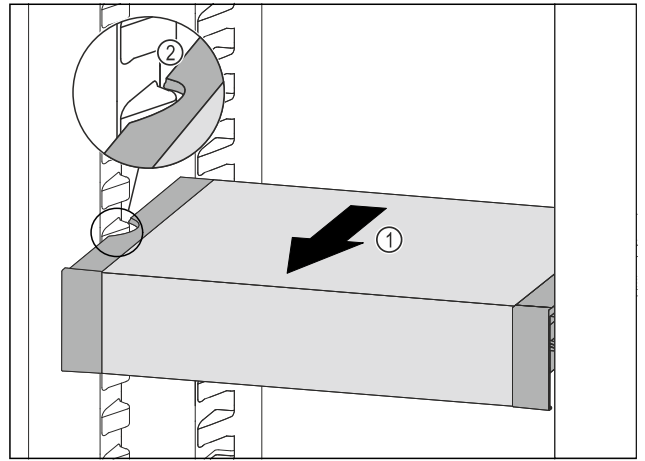

Fig. 46
- ▶ Pull VarioSafe forwards Fig. 46 (1) until the recesses in the side of the VarioSafe are at the level of the support rib in the refrigerator compartment. Fig. 46 (2)